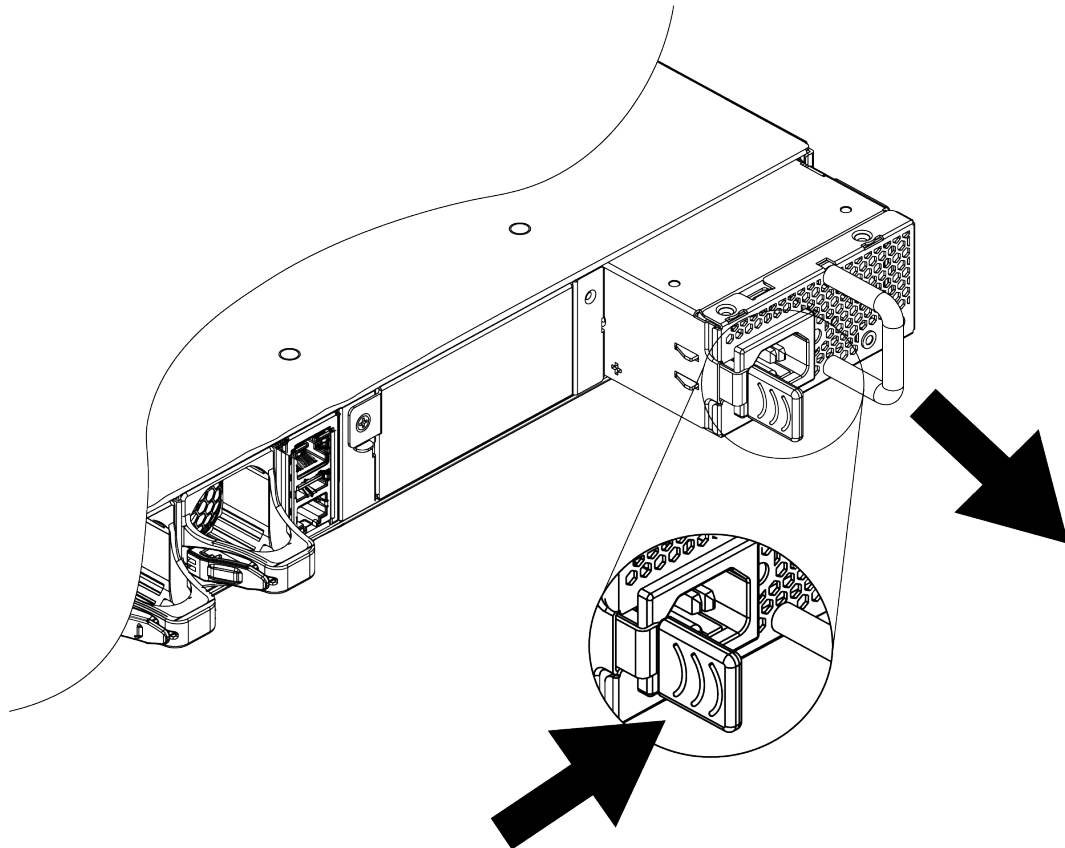

Figure 47: Removing an 1100 W AC Power Supply
3. Push the latching tab toward the power supply handle and pull outward on the handle to disengage the power supply internal connectors. See Figure 47.